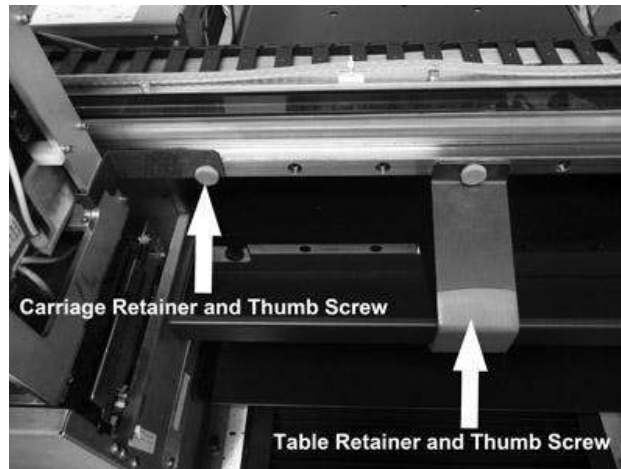

Figure 2.4: Table Retainer
- Locate the Table and Carriage Retainers. (see figure 2.4)
Remove thumb screws holding the Table and Carriage Retainer in position. (see figure 2.4). **Keep the Retainers and Thumb Screws for future use for printer shipment.**